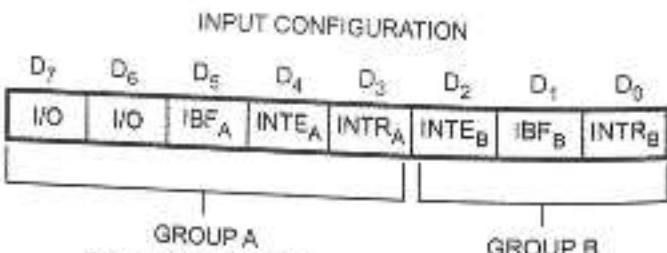

Fig. 3.4.10 Mode 1 status word (input)
- The status word is accessed by reading Port C (A₁ A₀ must be 10, RD and CS must be low). The status word format when Ports A and B are input ports in Mode 1, is shown in Fig. 3.4.10.